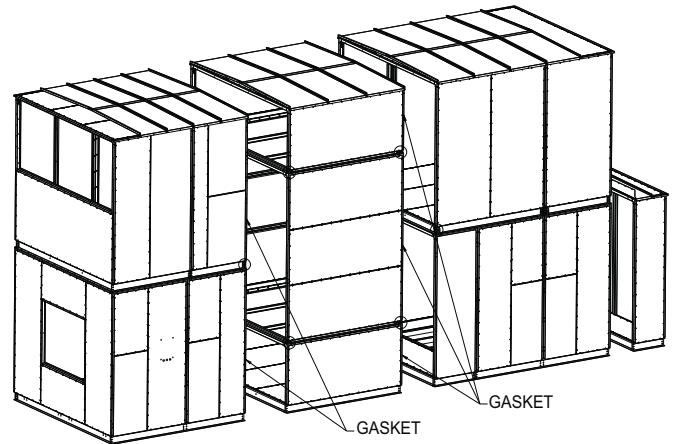
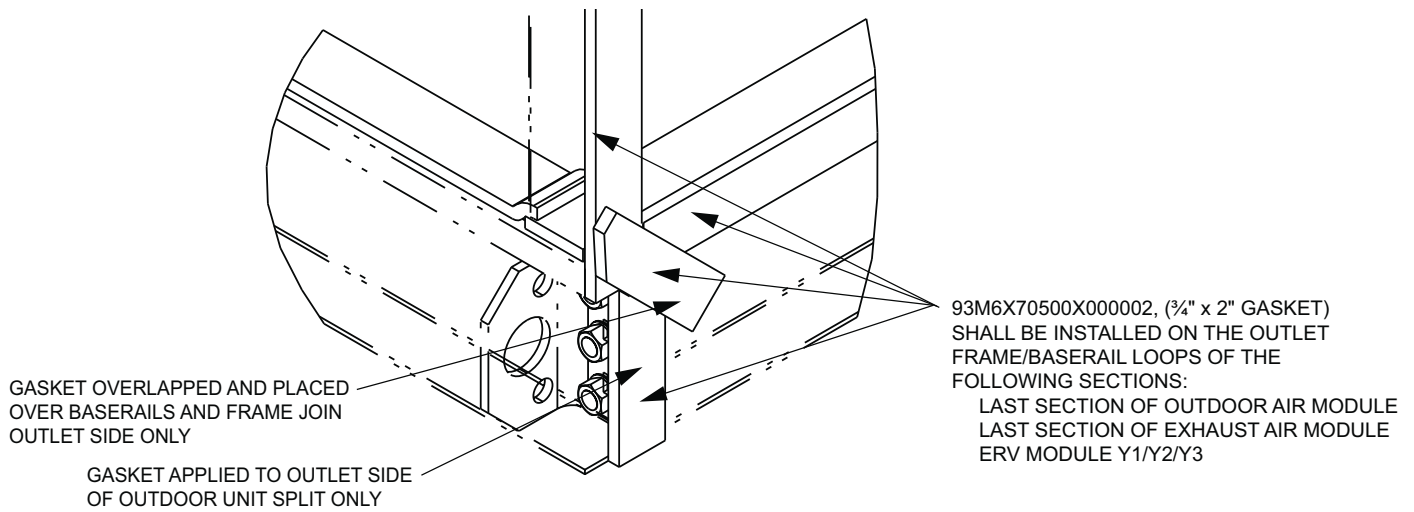

Fig. 162 — Outlet Perimeter Gaskets
Fig. 163 — Gasket Installation
Verify that outlet perimeters at the locations shown in Fig. 162 have 3/4 in. x 2 in. gasket installed as shown in Fig. 163.
4. Stack upper section for the supply air module on the return air module making sure to align the stacked vertical frames. Connect stacked base rail to frame as shown in Fig. 163.
8. Stack the ERV wheel section and secure baserail to lower section as shown in Fig. 163. Take care to vertically align the faces of the stacked vertical frames.
11. Stack the upper ERV wheel bypass section and secure baserail to the lower section as shown in Fig. 163. Take care to vertically align the faces of the stacked vertical frames.
16. Stack the upper level sections for the outside air module on the lower level exhaust air sections and secure baserail to the lower section per Fig. 163.